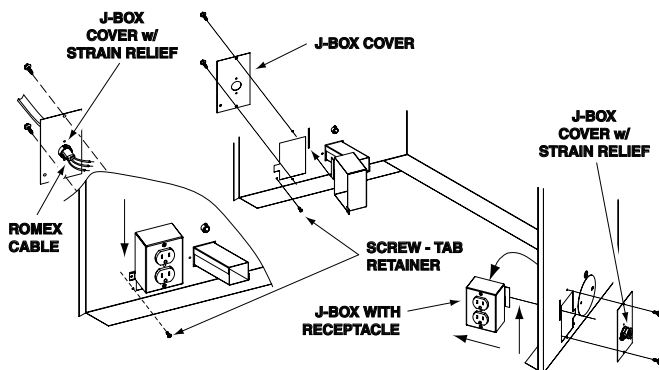

Figure 13 - Relocating Junction Box Receptacle and Electrical Supply Connection
1. Remove the 2 screws and outer cover with strain relief bushing on the right side of the cabinet (see **Figure 13**).
8. With the junction box cover removed, pull the end of 3-wire Romex supply line through the universal strain relief bushing on the cover. (see **Figure 13**).